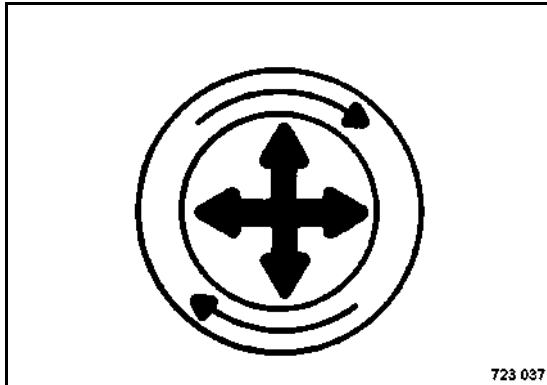

Fig. 141
- Carefully loosen the main filter element (Fig. 141).
The main filter element is located directly on the air intake tube, thereby providing a seal on the inside of the filter cover. Carefully remove the main filter element, in order to reduce the released amount of dust. To release the seal pull the main filter element carefully up, down and sideways or turn it (Fig. 141).